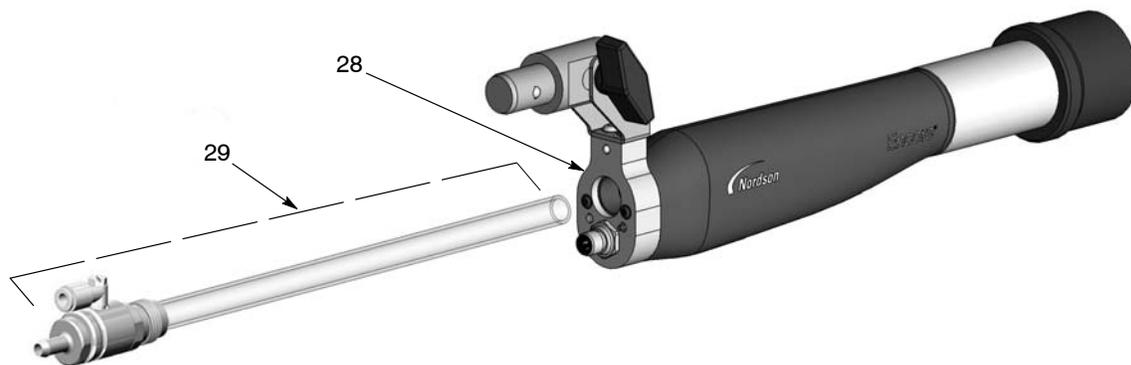

Figure 7-1 Powder Tube Replacement
19. See Figure 7-1. Install the powder tube (22) into the adapter (30) with a twisting motion to insert the tube past the internal O-ring until it is fully seated.